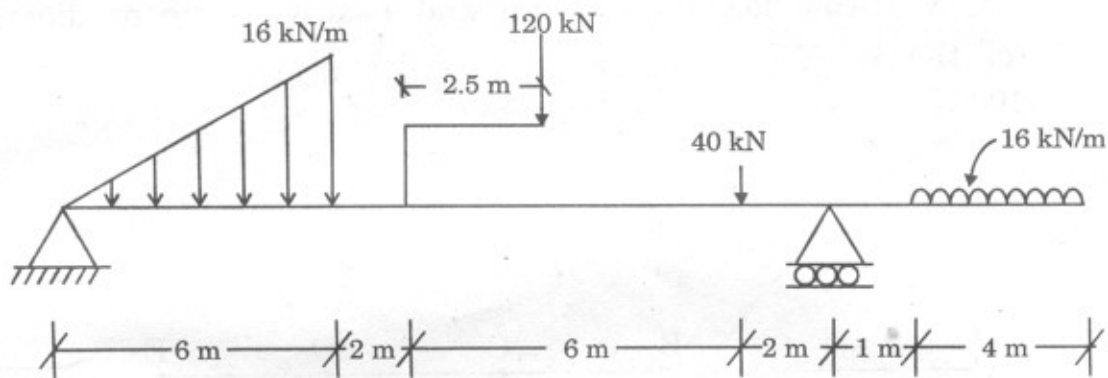

Fig. 3.1
3. (a) The beam shown in Fig. 3.1 is loaded as shown. Draw S.F.D. and B.M.D. showing all salient values. [10]